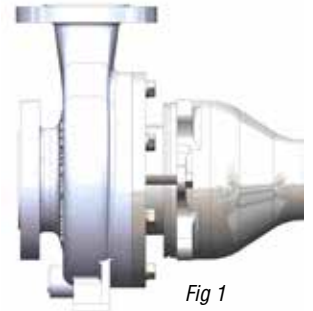

Fig 1
**⚠ Magnetic Force Hazard.** This pump should only be disassembled and assembled using the recommended procedures. The magnetic attraction is powerful enough to rapidly pull the motor end and the wet end together. ALWAYS use the jackscrews (item 14) to assemble/disassemble the pump. Do not place fingers between the mating surfaces of the motor and wet ends to avoid injuries. Keep the drive magnet and impeller assembly away from metal chips or particles.
2. Using a 24 mm socket, unbolt the wet end (items 1-7) from the motor adapter by removing the (4) M16 hex head cap screws (item 15). Make sure the (2) jackscrews (item 14) are fully extended. Using a 24 mm socket turn the jackscrews clockwise until they are fully extended. See figure 1.